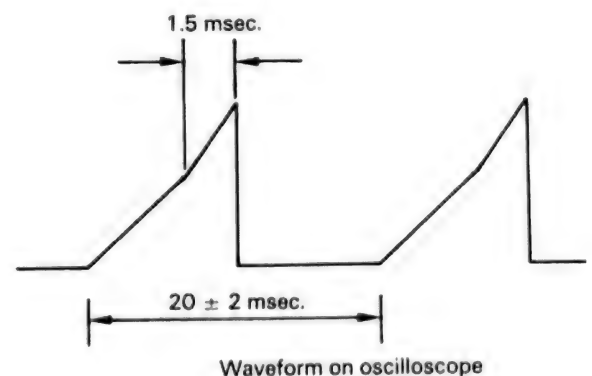

Fig. 22
2. Adjust VR1 at 33-1/3 rpm so that a waveform as shown in Fig. 22 is obtained.